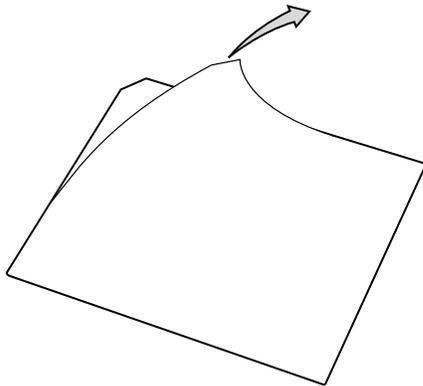

Figure 5. Removing Adhesive Backing
3. Peel the protective film from the adhesive side of screen protector as shown in Figure 5.